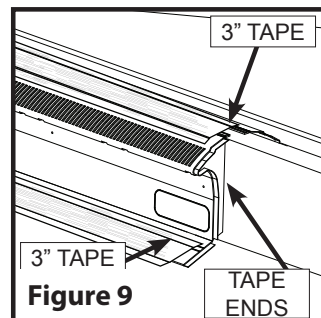

Figure 9
a. Apply 3" minimum width aluminum-backed peel and seal tape along the length of the top flange, at each butt joint and on each end. (See Figure 9)
a. Apply two coats of mastic with a 3" minimum wide strip of reinforcement tape along the length of the top flange, at each butt joint and on each end. (See Figure 9)